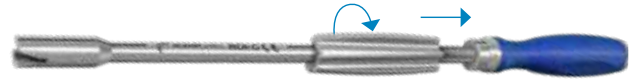

Figure 20c
- Rotate the knob counter-clockwise until it stops against the handle (Figure 20c).